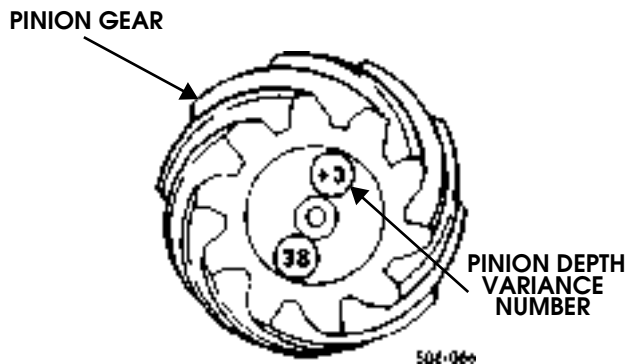

Figure 9-81: Pinion Depth Variance Number Location
2. Check pinion depth variance number marked on old and new pinion gears and record (Figure 9-81). Refer to Table 4.